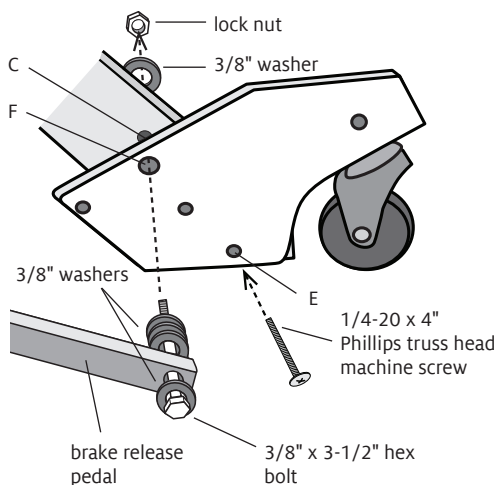

FIGURE 3: RIGHT OUTSIDE LEG
8. Re-attach the brake release pedal to the right outside leg, using the lock nut and 3/8" washers you removed in Step 5 and the new 3/8" washer. Insert the new 3/8" x 3-1/2" hex bolt through a 3/8" washer, then through the brake lever, then through three 3/8" washers (Figure 3). Now insert the hex bolt through the top hole [F] in the caster block and the top hole [C] in the loom leg. Secure with the last 3/8" washer and the lock nut.